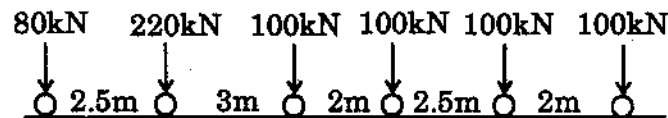

Figure. 3
16. The load system shown in fig 3 below moves from right to left along a girder of span 20 meters. Find the maximum shear force at a section 7.5 meters from the left end.